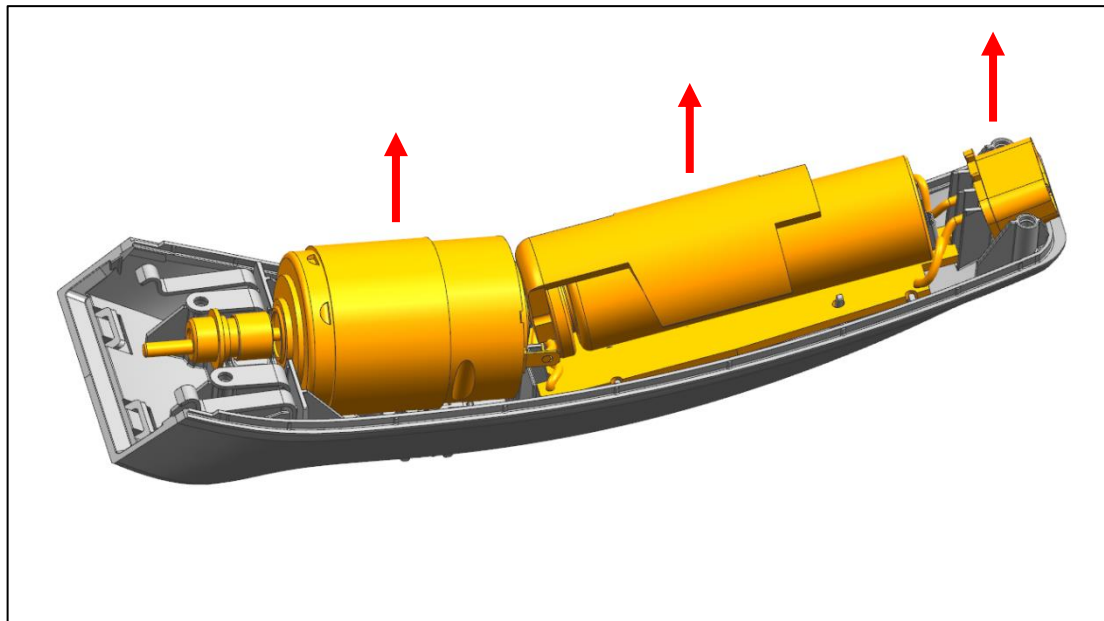

Fig. 7
- a) Remove the drive unit (Fig. 7).